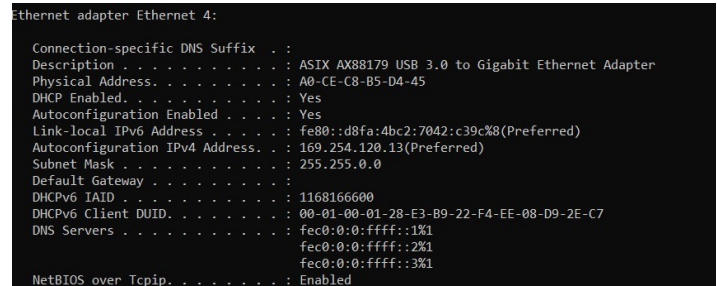

Fig. 3—This information displays when you run the command.
8. Locate the description block for the ethernet adapter connected to the EVOM™ Auto. It will look something like what is shown in Fig. 3. (There will be several blocks.)